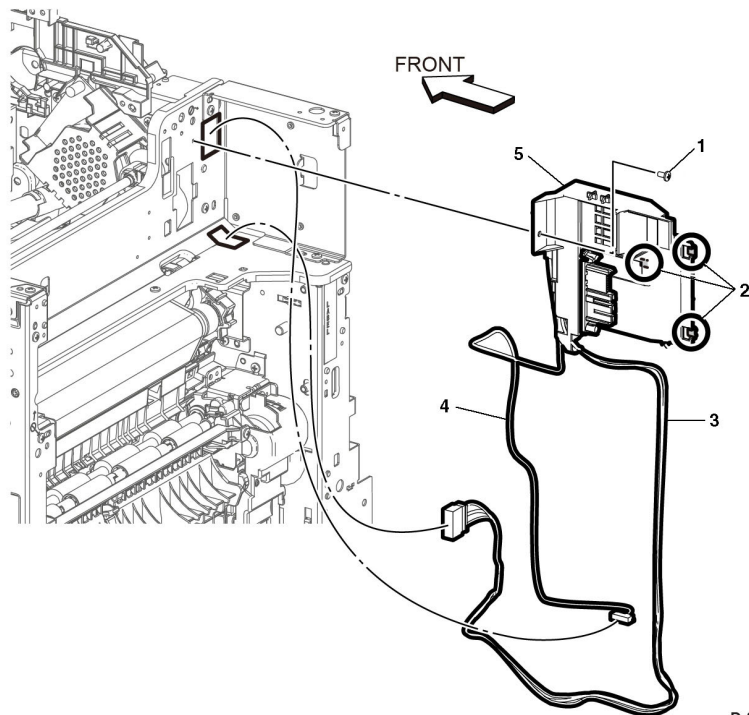

Figure 2 AC 100V/200V-CF fusing harness assembly removal
4. Remove one screw (1), release three hooks (2), then remove the AC fusing harness assembly (3), the DC-CF fusing harness assembly (4) and the fusing harness guide (5), Figure 2.